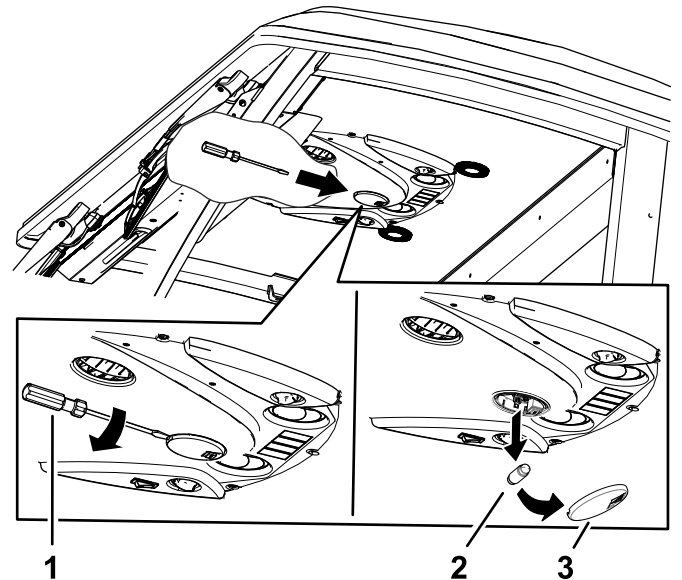

Figure 85
1. Use a screwdriver to remove the light lens from the control panel. (Figure 85).
2. Remove the bulb from the light base (Figure 85).